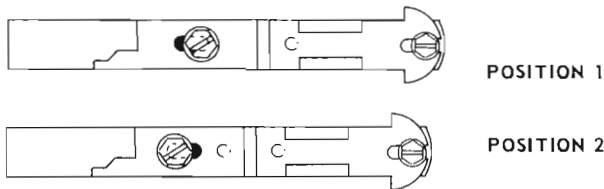

Figure 16. Subtract Plate Positions.
5. To adjust the Subtract Adjustment Plate, first loosen the adjustment screw. The screw can be reached when the Cancel Slide is pushed in. Adjust the plate to Position 1 or Position 2 as required, see *Figure 16*. Tighten screw.